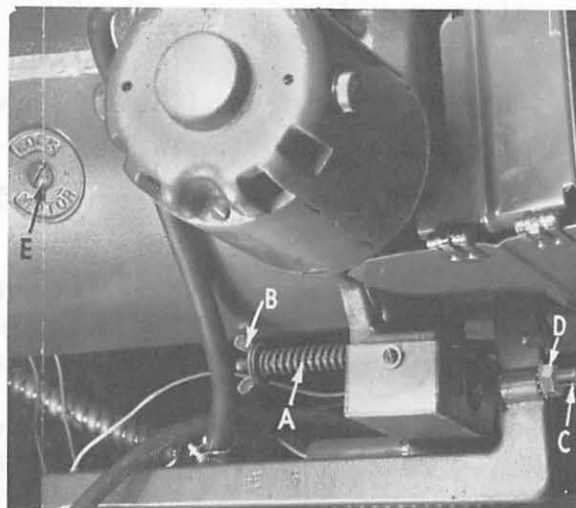

Fig. 35
- (b) Adjust clutch arm spring (A, Fig. 35) so that treadle will return to stop (wing nut washer (B) is to be approximately $1/2$ inch from end of stud).
- (c) Close treadline switch and loosen clutch lever switch adjusting screw (C), until there is no contact between it and the microswitch. Then tighten screw until needle position up. Tighten nut (D) to maintain setting.
- (b) Adjust clutch so that clutch arm has approximately $1/16$ to $1/8$ inch travel before clutch is engaged. Loosen lock screw (E, Fig. 35) (where it says "Lock Motor") just enough to unlock it, which is approximately one full turn. Adjust screw located near the top on right end of motor, until clutch is engaged as described above. Tighten lock screw (E).